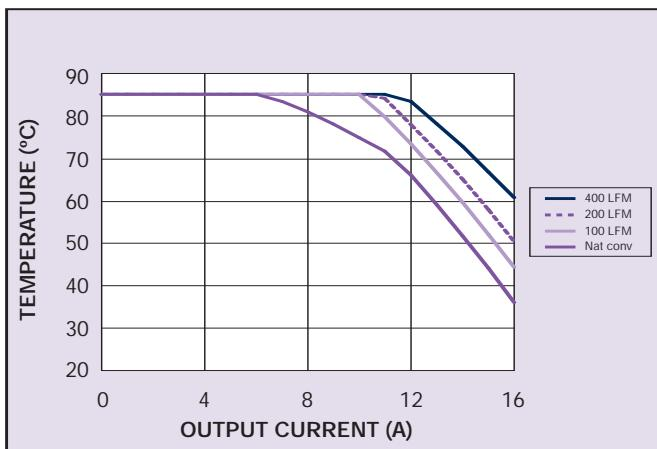

Figure 1 - Safe Operating Area
- 2 See Figures 1, 2, 3 and 6 for safe operating area curves.